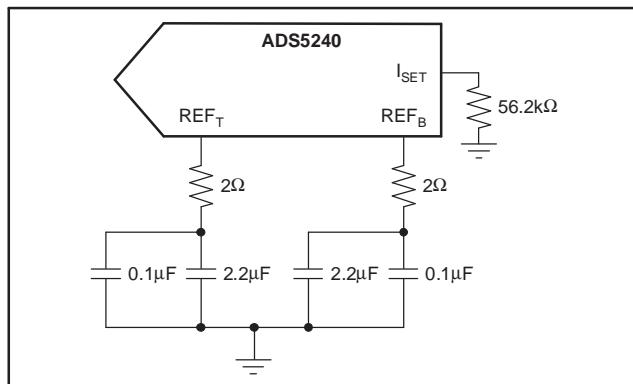

Figure 15. Internal Reference Mode
When using the internal reference mode, a  $2\Omega$  resistor should be added between the reference pins ( $REF_T$  and  $REF_B$ ) and the decoupling capacitor, as shown in Figure 15. If the device is used in the external reference mode, this  $2\Omega$  resistor is not required.
• Deleted Figure 15 (Input Circuitry) of Driving the Analog Inputs section in Theory of Operation .....	<a href="#">16</a>
• Added Figure 15 (Overall Structure of the Sample-and-Hold Circuit).....	<a href="#">17</a>